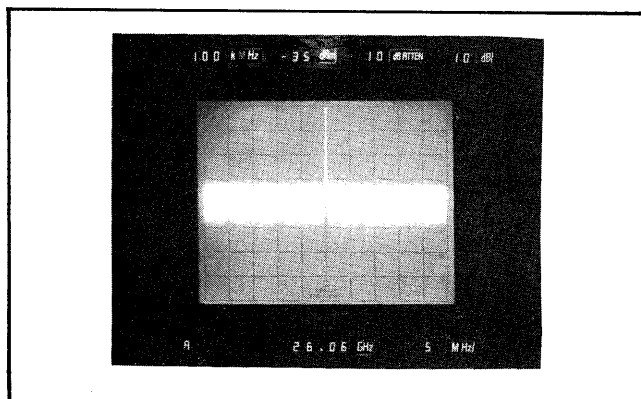

Figure 4-24. Analyzer Display, With 30 dB Signal-To-Noise Ratio
- (d) The display should resemble Figure 4-24.